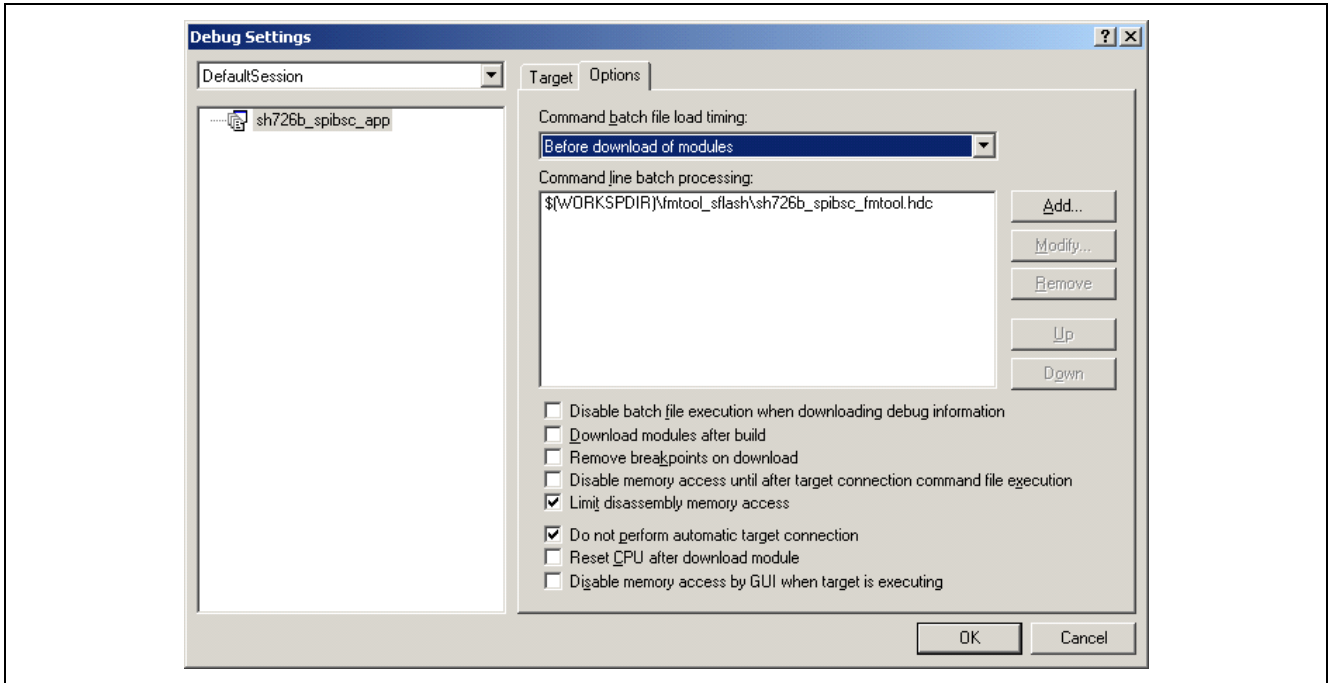

Figure 7.3 Window for Debug Setting
2. The debug setting window shown in Figure 7.3 opens.